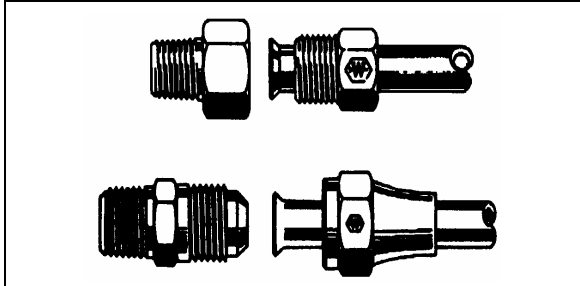

FIGURE 50: HOSE FITTINGS
**45° Flare and Inverted Flare:** Tighten assembly with a wrench until a solid feeling is encountered. From that point, tighten 1/6 turn (Fig. 50).